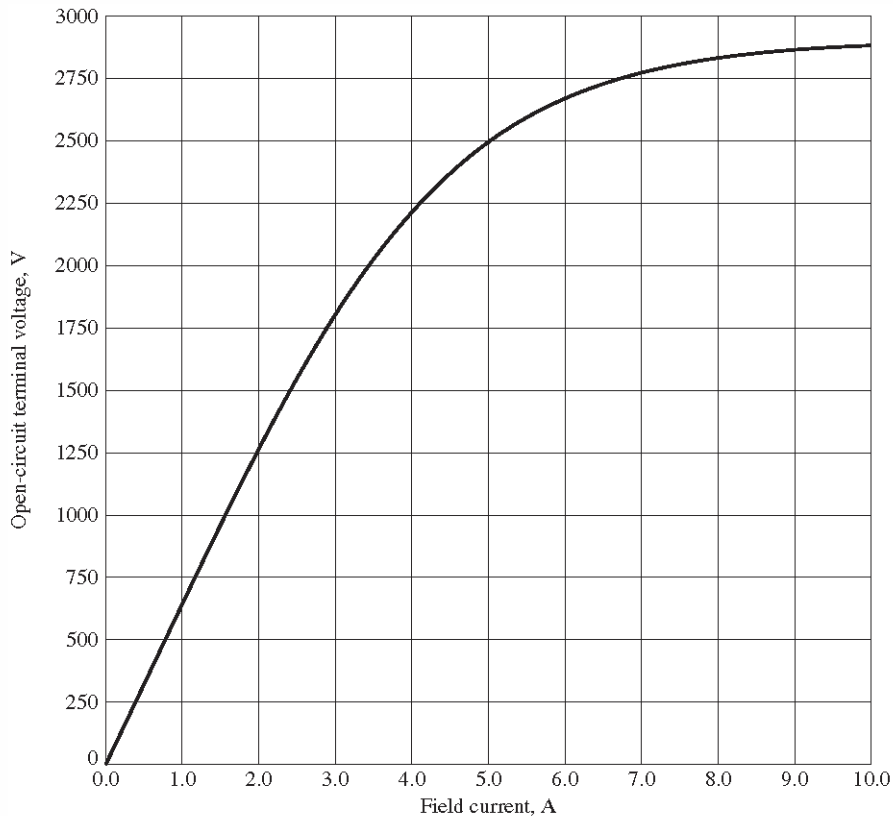

FIGURE P5-1
5-4. A 2300-V 1000-hp 0.8-PF leading 60-Hz two-pole Y-connected synchronous motor has a synchronous reactance of **2.5 Ω** and an armature resistance of 0.3 Ω. At 60 Hz, its friction and windage losses are 30 kW, and its core losses are 20 kW. The field circuit has a dc voltage of 200 V, and the maximum I_F is 10 A. The open-circuit characteristic of this motor is shown in Figure P5-1. Answer the following questions about the motor, assuming that it is being supplied by an infinite bus.
- 5-5. Plot the V-curves (I_A versus I_F) for the synchronous motor of Problem 5-4 at no-load, half-load, and full-load conditions. (Note that an electronic version of the open-circuit characteristics in Figure P5-1 is available at the book's Web site. It may simplify the calculations required by this problem.)